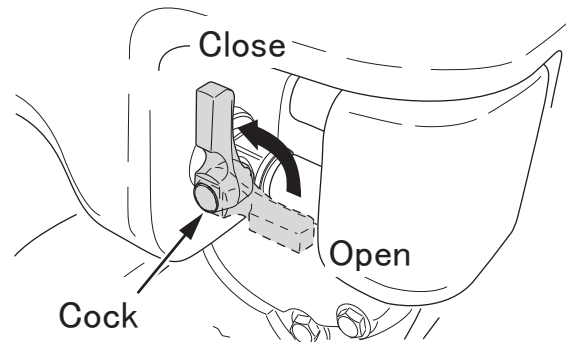

Fig.20
1. When stopping sprinkling work, close the cock of water tank.(fig. 20)